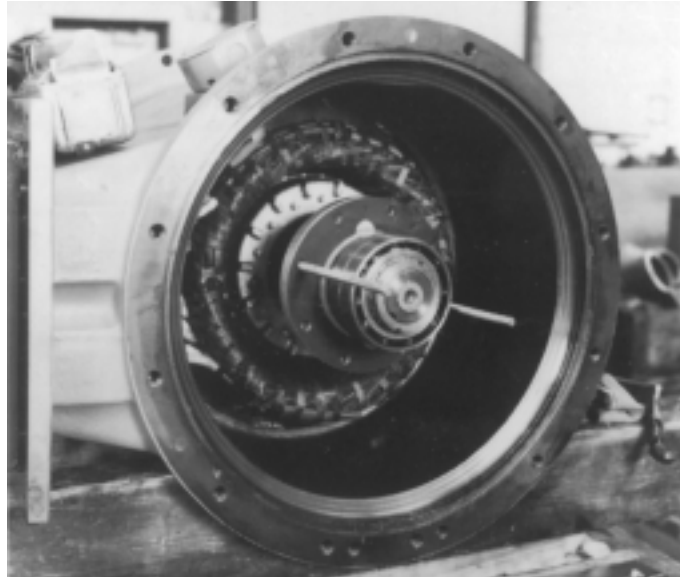

Figure 42. Installing opposite drive end bearing bracket.
10. Refer to Figure 42. Set the inner seal by installing the socket head capscrews. Properly installed the outer race of the bearings should extend approximately 1/16" beyond the bearing bracket. If not, the bearing seal is not properly seated and the bearing will be allowed to float. This will result in serious compressor damage. Reposition the seal if necessary. Tighten the retaining bolts to 24 Ft. - Lb.